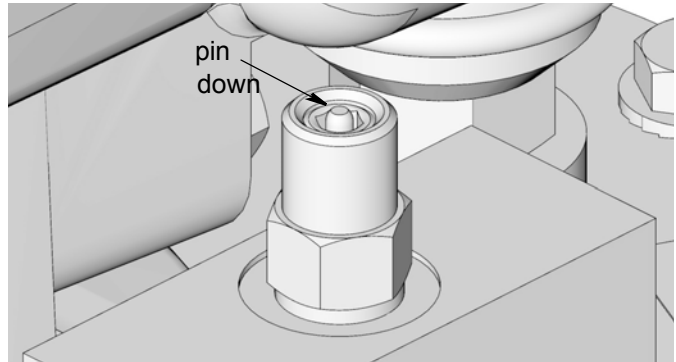

FIG. 14
2. Verify the Auto-Fill Shut Off (S) pin is down, indicating it is reset (FIG. 14).
Make sure Auto-Fill Shut Off (S) pin is down. See FIG. 14, page 14.